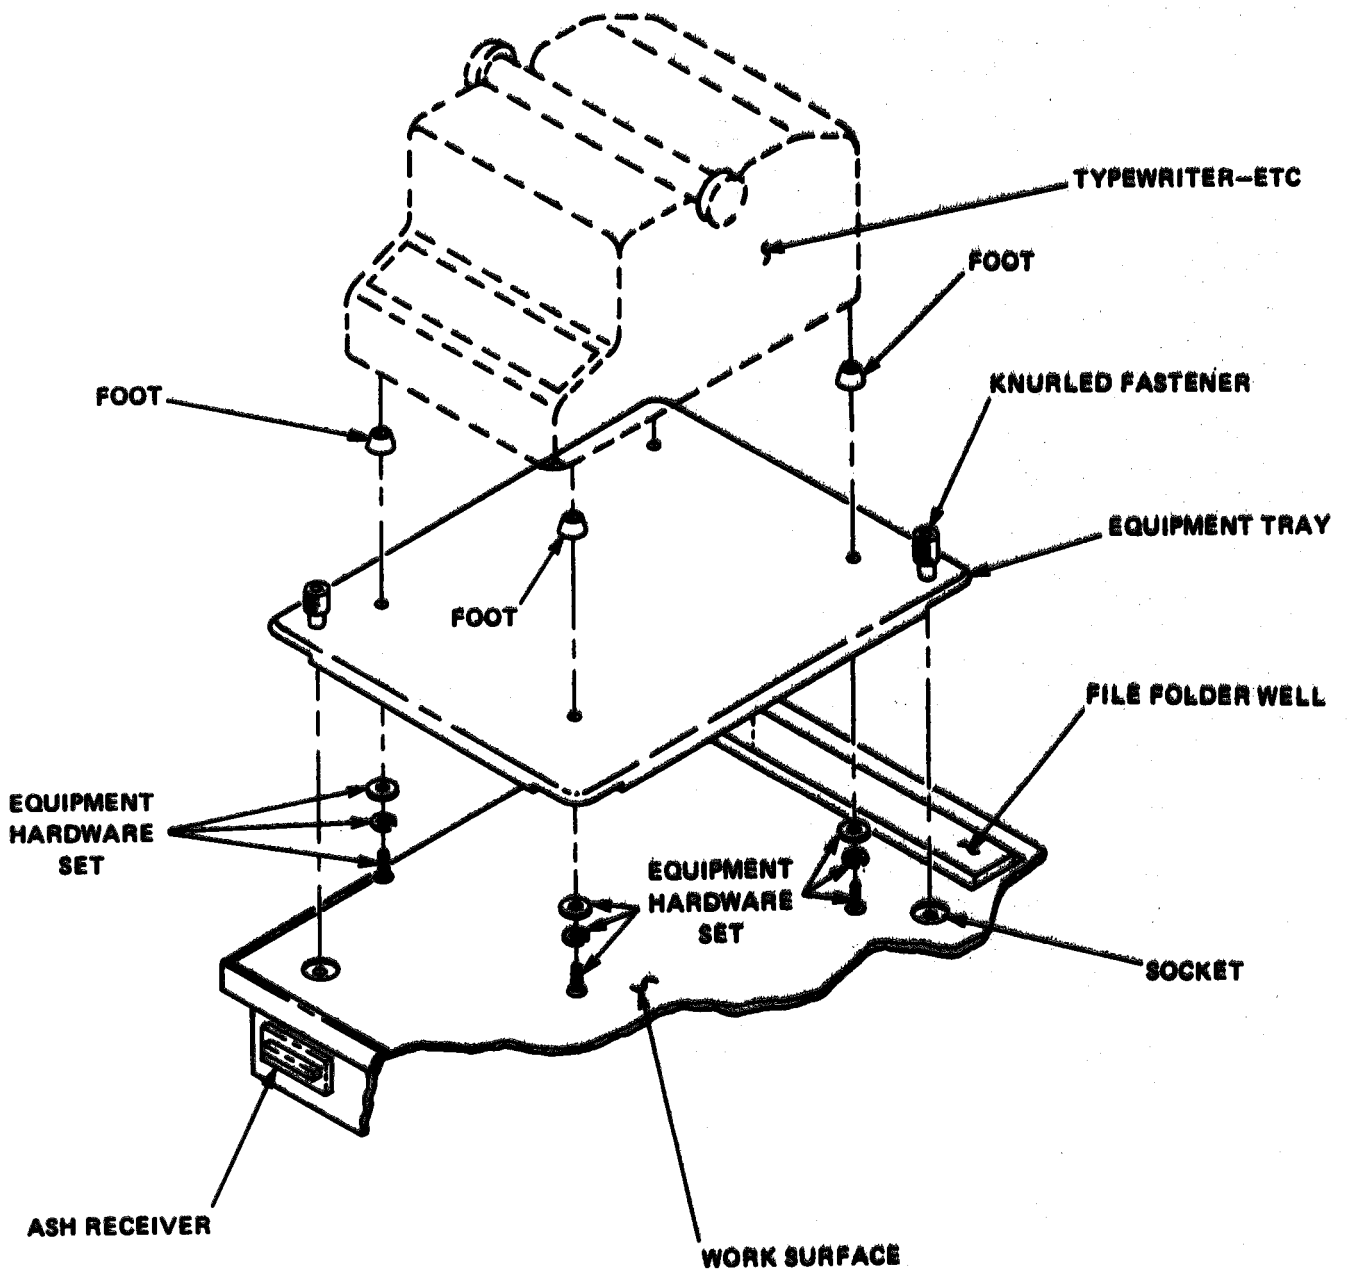

Figure 2-2. Equipment Tray Assembly
(1) Turn the black knob at the center of the doors counterclockwise until it hits the stop.
(2) Pull knob outward and slid doors open.
d. Equipment Trays. The equipment tray on each corner console comes secured to the console. To release equipment tray for operation, turn the two knurled barrels counterclockwise until the release springs are unlocked and the barrels are up and free turning (figure 2-2).